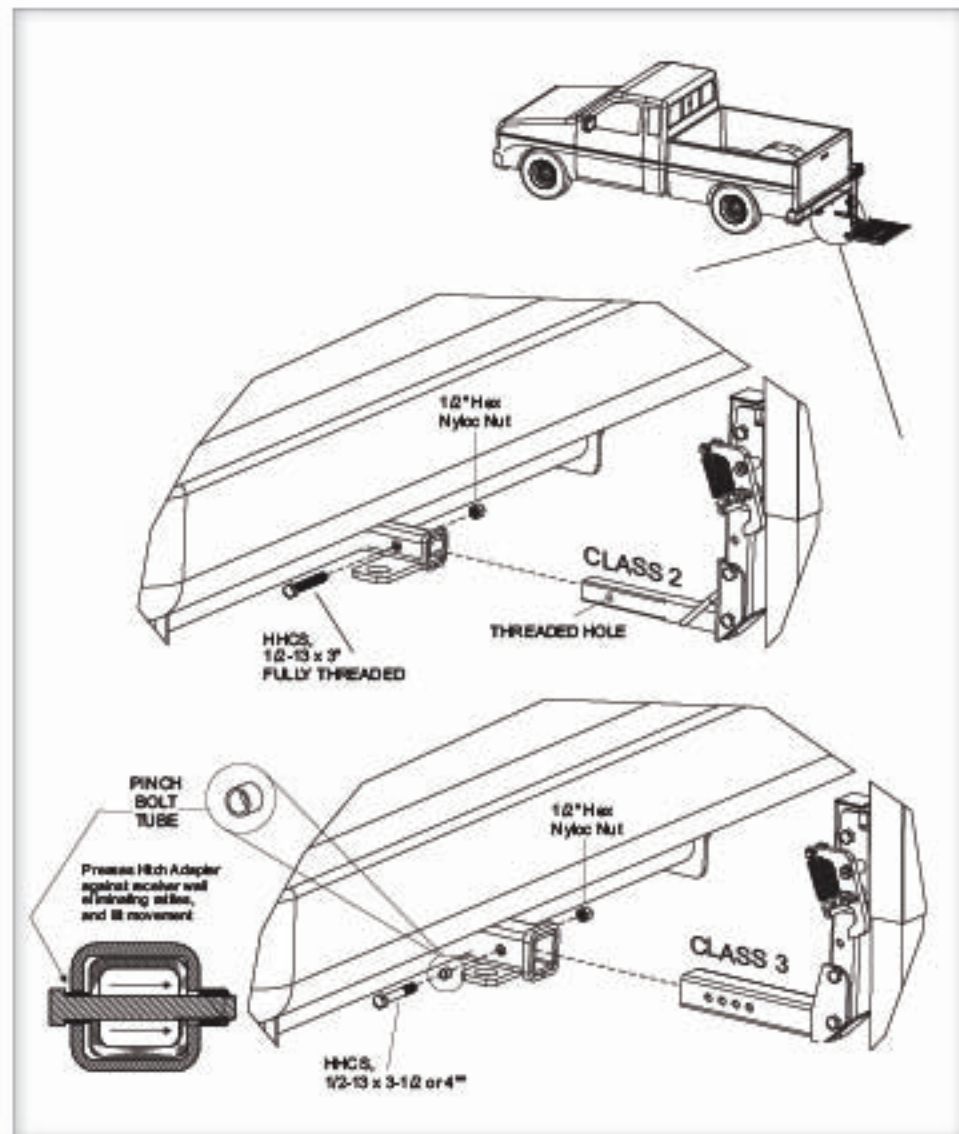

Figure 23-2
- 3. Slide Hitch Adapter into vehicle's hitch receiver.** Fasten Adapter according to hitch class. [Figure 23-2]